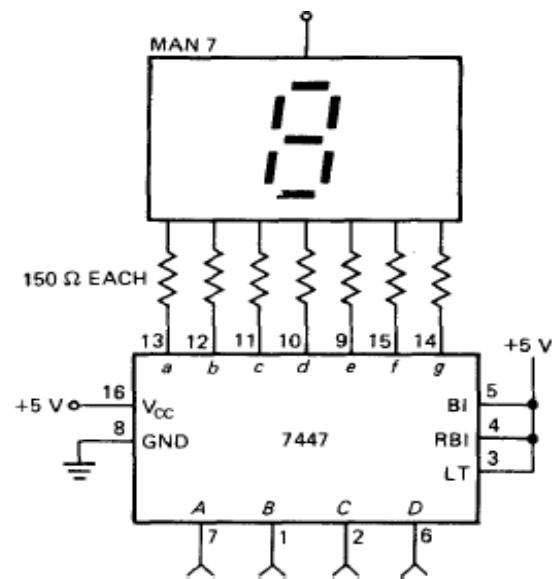

Fig 5.1 Single digit seven segment circuit
- Figure 5.1, shows a circuit to display single digit driver circuit